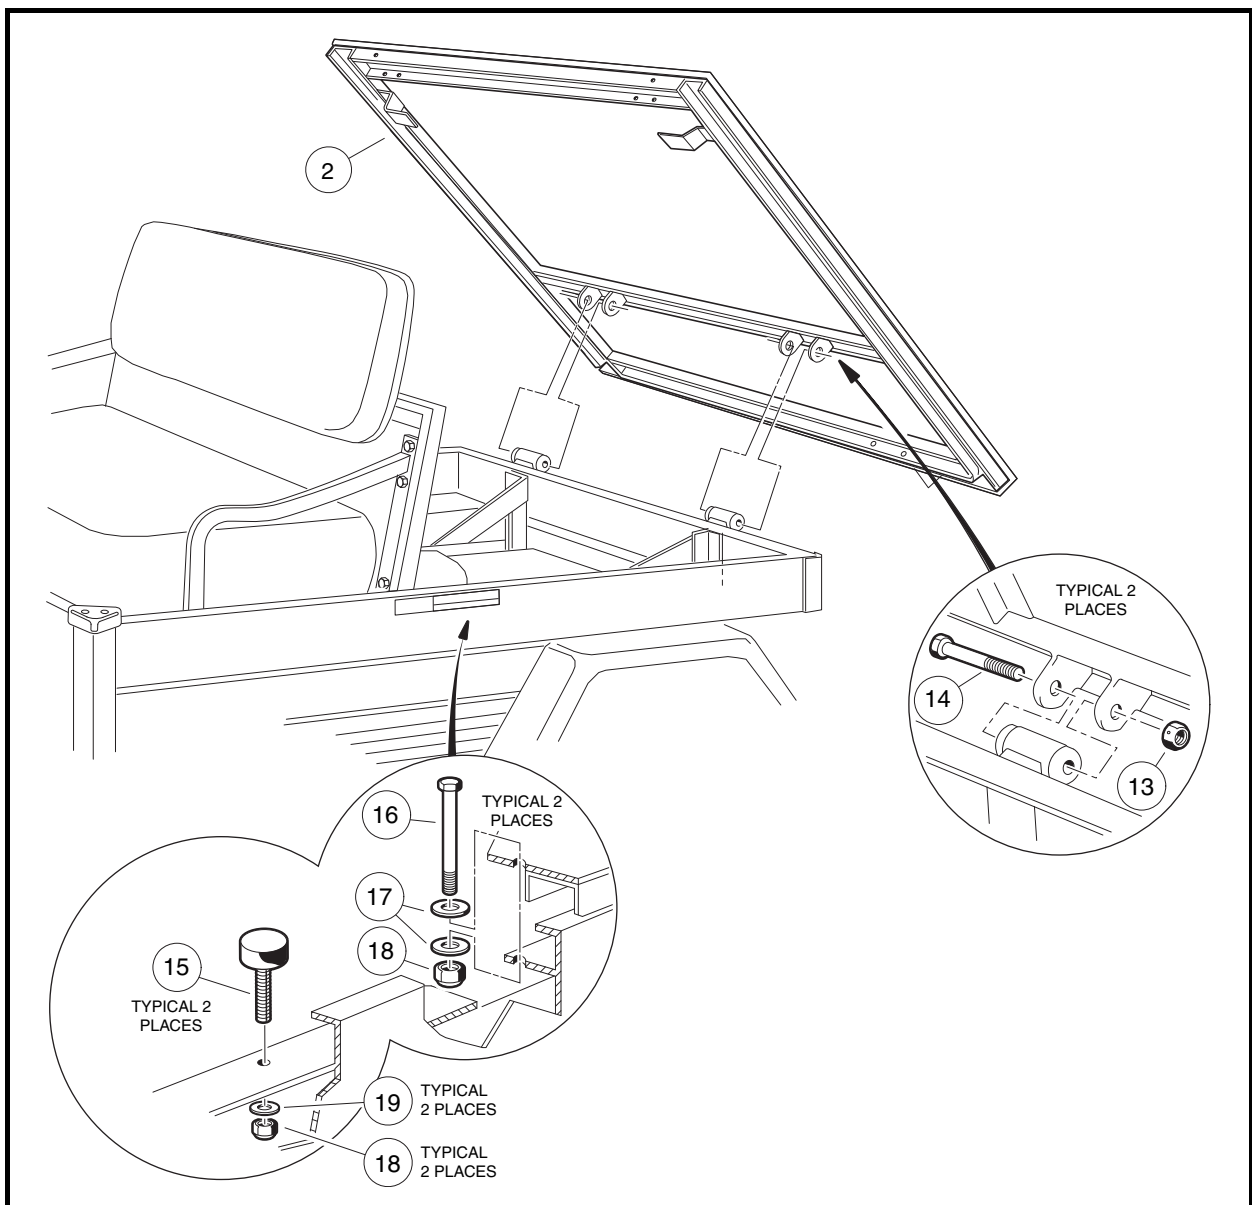

Figure 4-13 Flat Bed – TransPorter 4
1. Remove the two bolts (16), washers (17) and lock nuts (18) that secure the front of the flat bed to the vehicle body (**Figure 4-13, Page 4-15**).
2. Remove the two lock nuts (13) from left and right hand flat bed hinge assemblies.
3. Apply slight upward pressure (by hand) on the rear of the bed to relieve pressure on the hinges and remove the hinge bolts (14) from the hinge assemblies (**Figure 4-13, Page 4-15**).
2. Tighten the bolts (16) and lock nuts (18) to 15 ft-lb (20.3 N·m) (**Figure 4-13, Page 4-15**).
3. Tighten the bolts (14) and lock nuts (13) to 20 ft-lb (27 N·m).